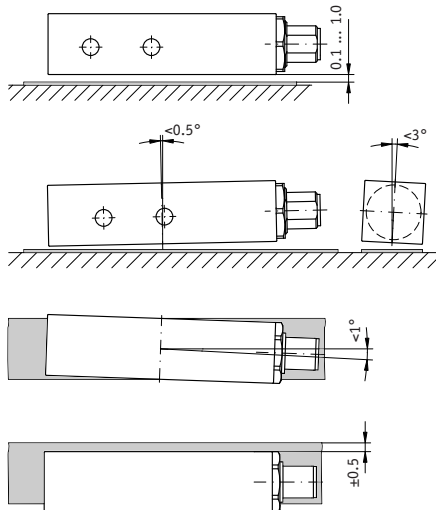

Fig. 7: Mounting tolerance
**Attention!** When mounting sensor and magnetic strip please observe that both components are correctly aligned and that the mounting tolerances are respected (see fig. 7).
The sensor's position relative to the magnetic strip is exactly defined. The correct gap between sensor and magnetic strip must be maintained over the total travel distance, irrespective whether the strip or sensor moves (fig. 7).
Within the defined limits (fig. 7), errors due to deviation are less important than errors resulting from strip and sensor tolerances.